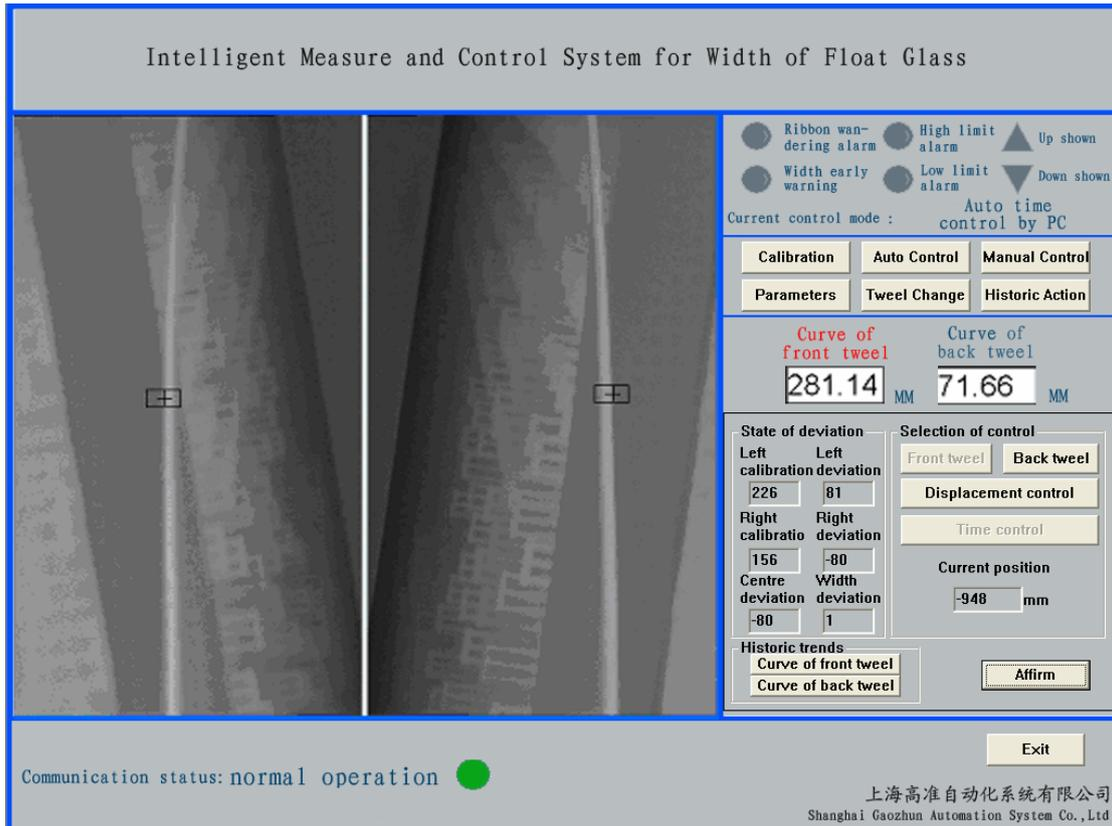

Fig. 8 Auto Control Interface
5.4 Click the button of auto control with the left key of mouse and enter the interface of auto control, as shown in Fig. 8